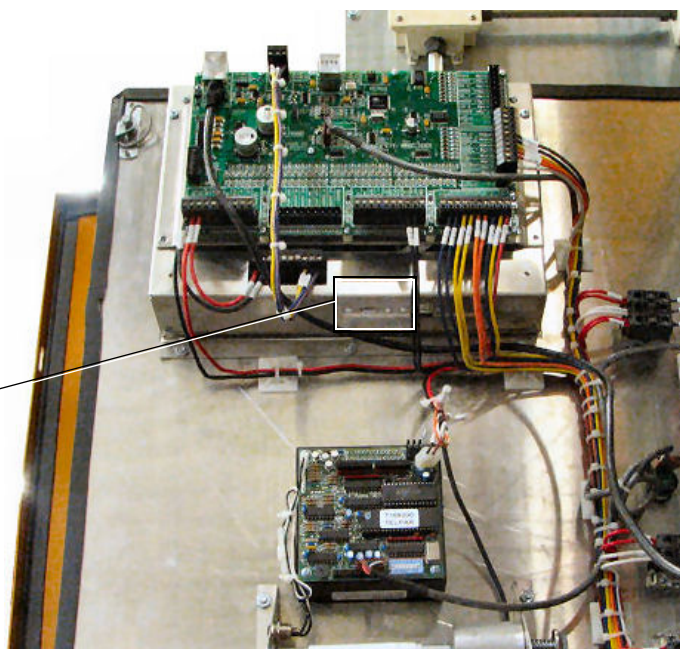

Fig. 1-B USB Port Location
3. Insert USB flash drive into USB port (see figure 1-C).